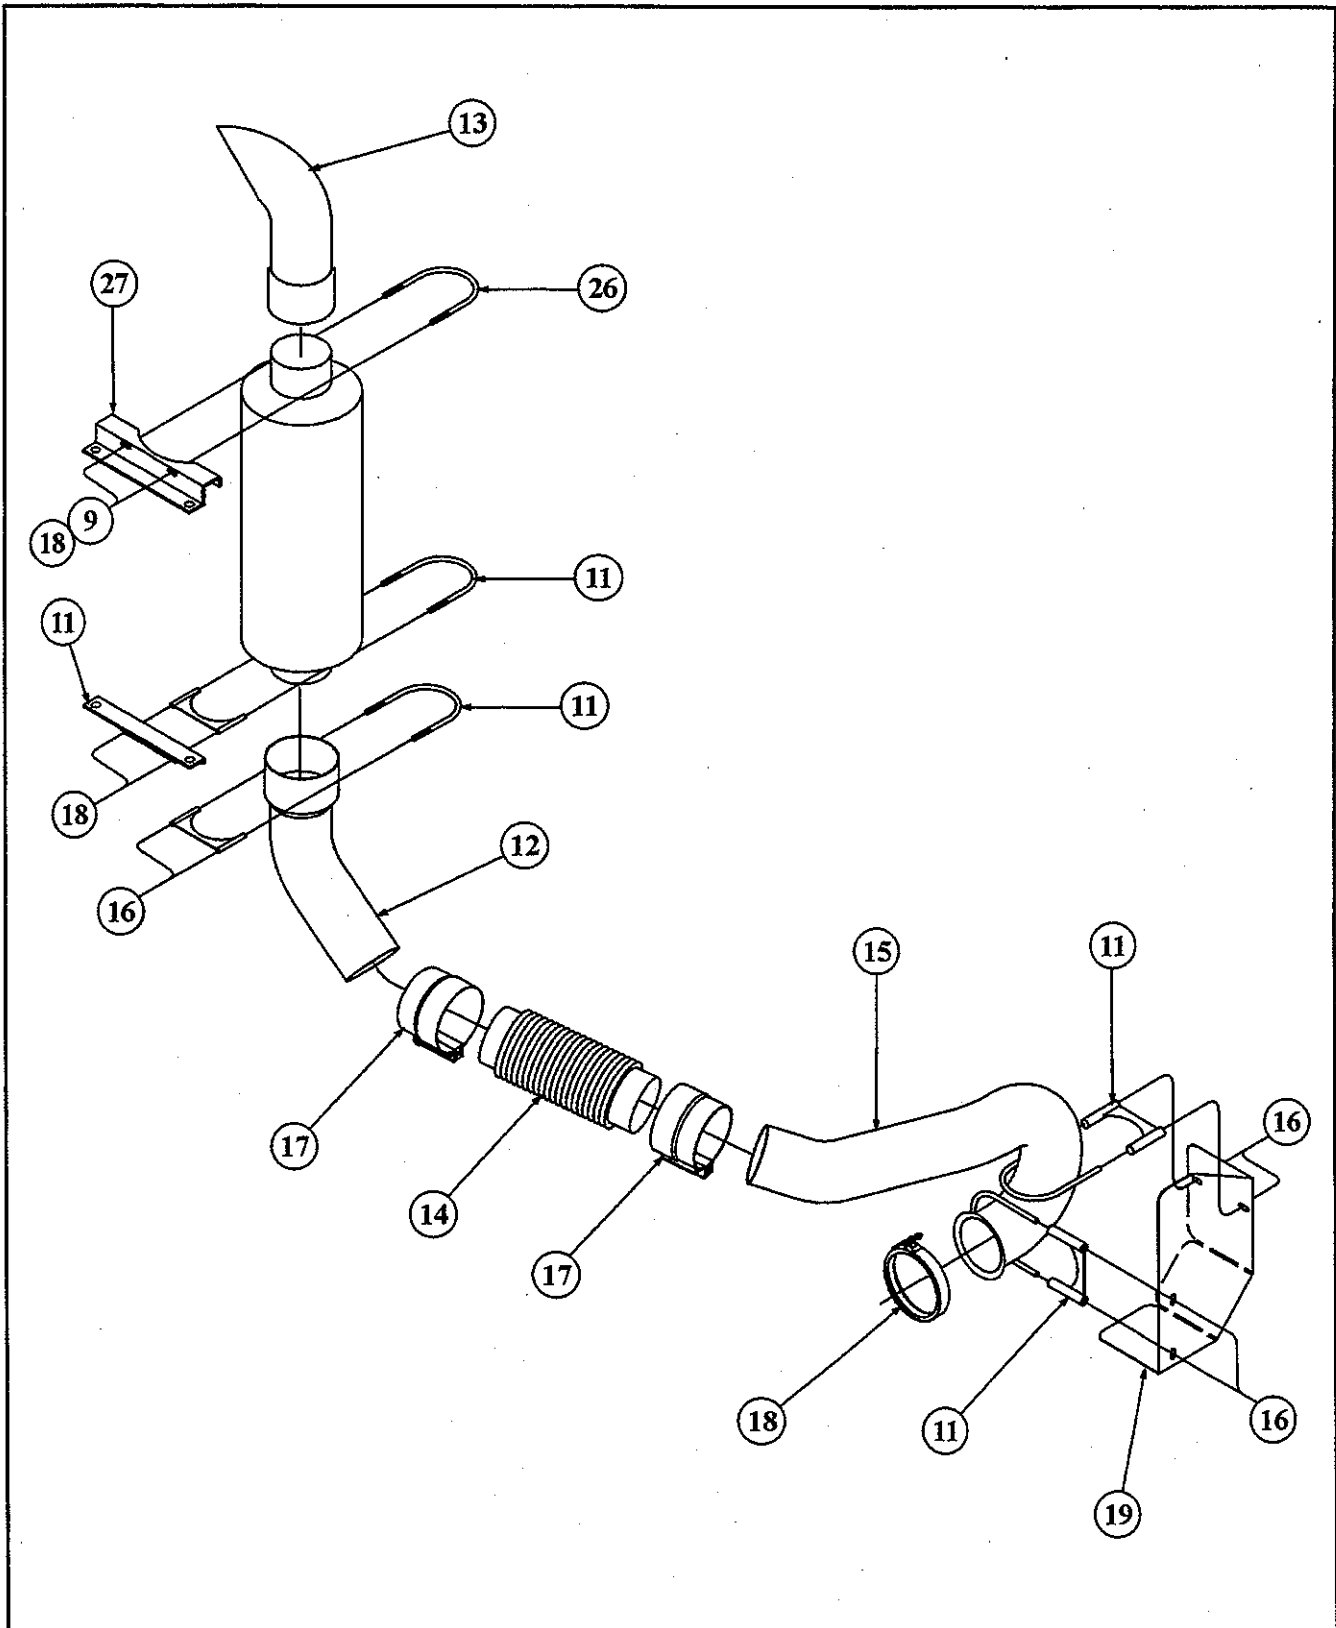

Figure 1—Exhaust System Piping and Clamping Cummins M11 ISM
Item key number (14) to be at full extension to avoid a 75% decrease in life cycle. (See Figure 1 - Exhaust System Piping and Clamping.)
9. Install the exhaust flex pipe (14).
10. Tighten the wide band exhaust clamp (17) at the exhaust pipe to muffler.
11. Install the turbo exhaust pipe (15).
12. Install the wide band exhaust clamp (17).
13. Tighten the wide band exhaust clamp (17) at exhaust pipe (15).
14. Install the U-bolt (11) to the heat shield (19) in two places.
15. Install the V-clamp (18) from turbo.
16. Install the nut (16) and U-bolt (11) in two places.
17. Tighten the V-clamp (18).
18. Tighten the nut (16).